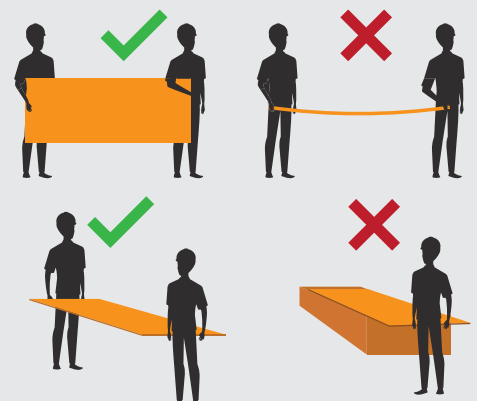

Figure 3.
- Atlon MGO boards should always be handled/carried on its side (by minimum of 2 people). (Figure 3)